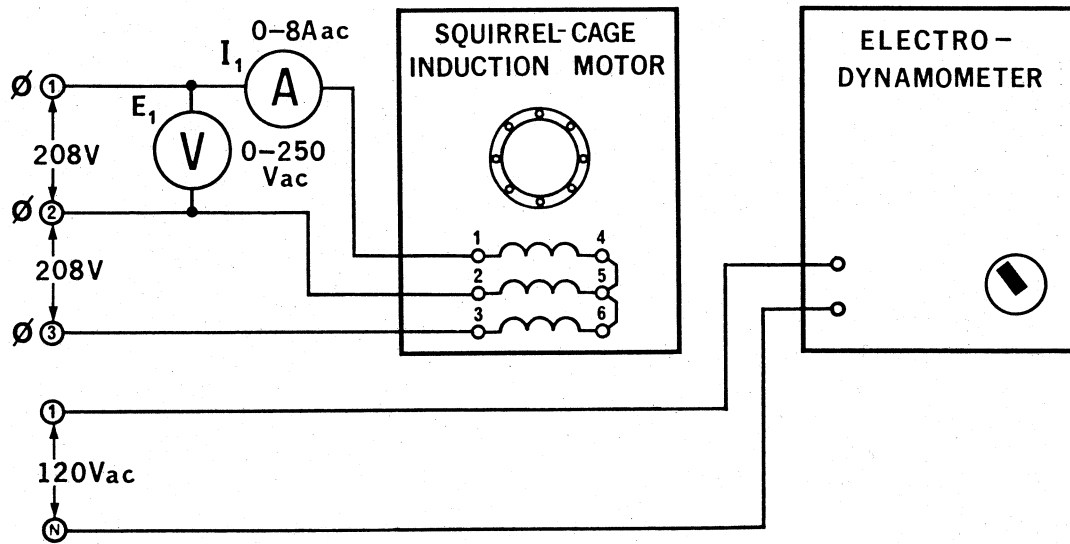

Figure 6-2.
- 7. a. Connect the circuit shown in Figure 6-2. Note that the fixed 3φ output of the power supply, terminals 1, 2 and 3 is now being used.